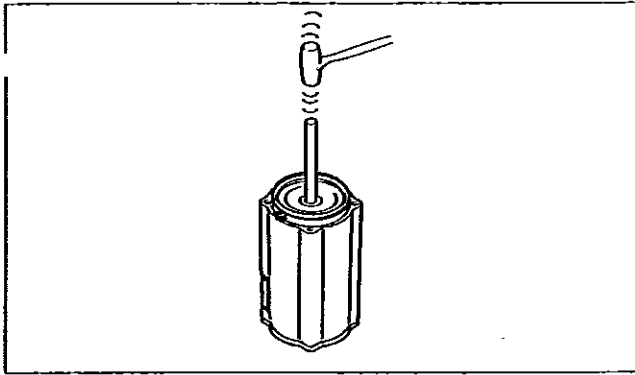

Fig. 19. Placing the piston in the cylinder
- Hammer or press the piston into the cylinder through the tie ring. Note the indicator arrow direction. See Fig. 19.
- Install new cylinder base O-rings (19). Replace cylinder with piston.
- Apply sealant, e.g. Loctite 225, to the bearing unit screw (29) thread and tighten the screw as in table 1 before mounting onto cylinder base.